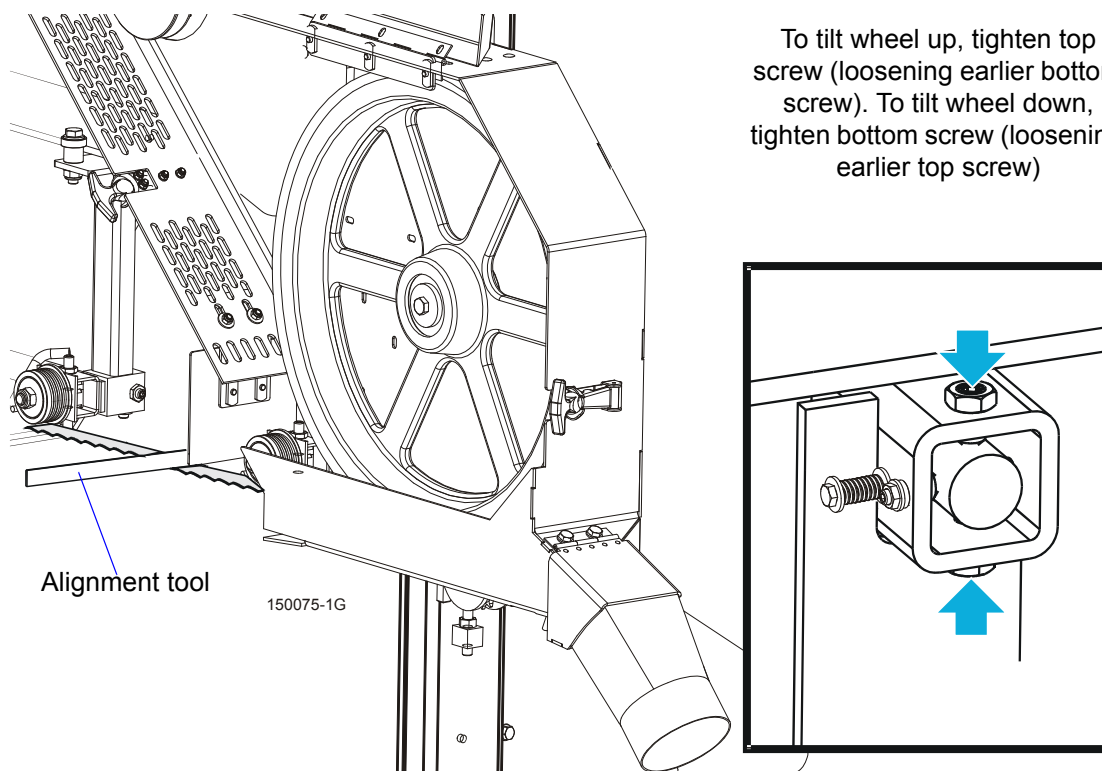

FIG. 2-6
- Remove the tool from the blade and reattach it near the inner blade guide. Measure the distance from the tool to the bed rail at both ends of the tool. If the measurements at the front and rear ends of the tool differ by more than 1,5 mm, adjust the vertical tilt of the drive-side blade wheel. See Figure 2-6.
See Figure 2-6. To tilt the drive-side blade wheel down, loosen the top adjustment screw, loosen the nut on the bottom adjustment screw and tighten the bottom screw. Tighten the top and bottom nuts.